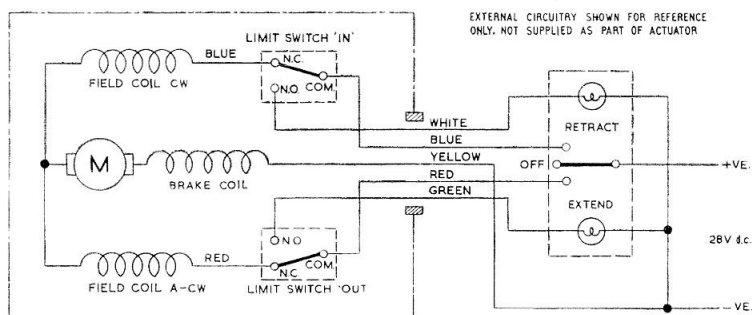

Fig. 1. Circuit diagram
1. Actuators, Plessey Part No. 1CZ82360/A and /B are variants in the Cub-Jaguar series described in the main chapter. These types have a sheathed cable assembly, which extends through the motor housing, for connection to the external electrical circuit; this feature is the main discernible difference between these actuators and other types in the series that employ a plug outlet. The electrical circuit is essentially the same as that shown in the main chapter, the difference being in the colour coding of the leads. The circuit diagram, Fig. 1, includes these changes.